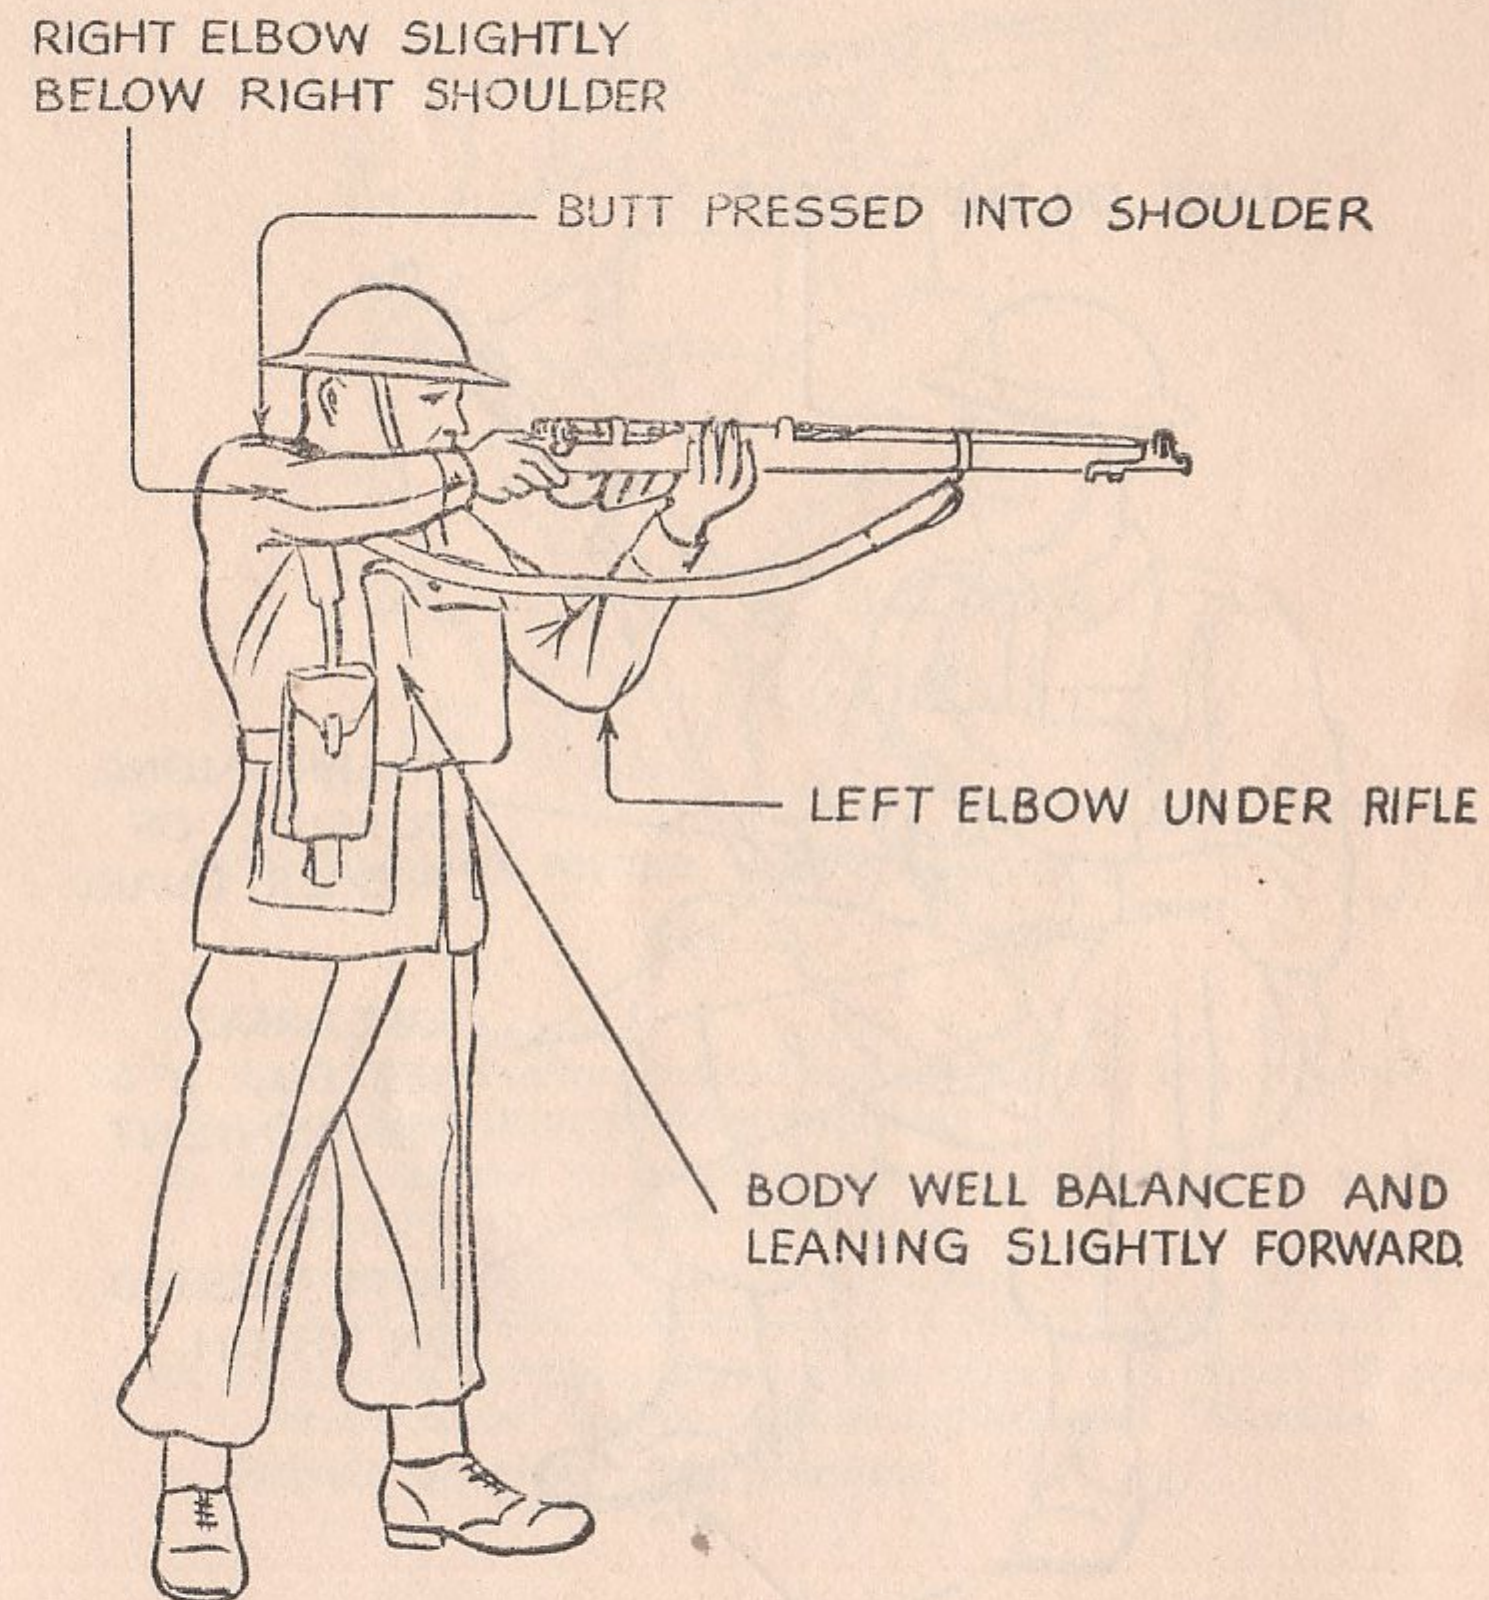

Fig. 21
7. Practise squad in complete position. (See Fig. 21.)